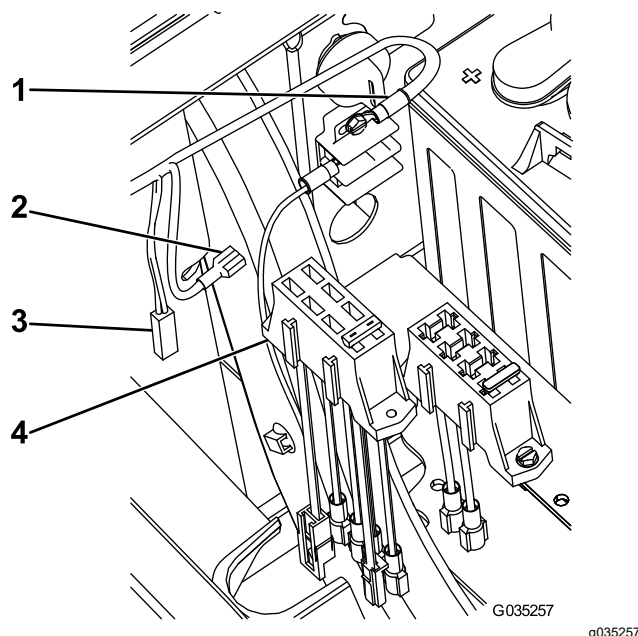

Figure 17
- For machines with Serial No. 403448001 and before, snap the new fuse block onto the existing fuse block on the machine (Figure 17).
3. Connect the large connector on the new fuse block to the optional power cable on the existing fuse block (Figure 17).
7. Connect the remaining wire to the fused wire on the new fuse block (Figure 17).
- **For machines with Serial No. 403448001 and before**, snap the new fuse block onto the existing fuse block on the machine (Figure 17).
2. Connect the large connector on the new fuse block to the optional power cable on the existing fuse block (Figure 17).
6. Connect the remaining wire to the fused wire on the new fuse block (Figure 17).